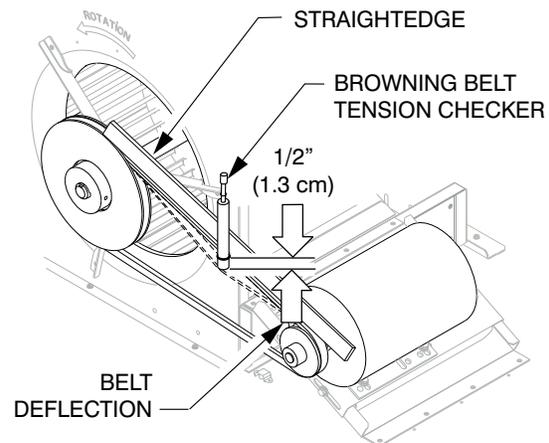

Fig. 5 – Checking Blower Motor Belt Tension
Check the belt condition and tension quarterly. Inspect the belt for signs of cracking, fraying or glazing along the inside surfaces. Check belt tension by using a spring-force tool, such as Browning's "Belt Tension Checker" (p/n 1302546 or equivalent tool); tension should be 6-lbs at a 5/8-in. (1.6 cm) deflection when measured at the center line of the belt span. This point is at the center of the belt when measuring the distance between the motor shaft and the blower shaft. See Fig. 5.
9. Check the tension after a few hours of runtime and re-adjust as required. See Fig. 5.
2. Loosen the belt by loosening the motor adjustment bolts as described in the Belt Adjustment section above. (See Fig. 5.)
4. Recheck the belt tension. See Fig. 5.